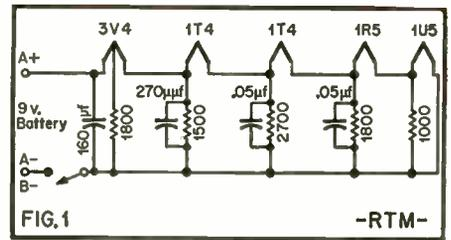

FIG.1
A similar condition results when a symmetrical signal is applied only to the horizontal input terminals of the oscilloscope. See Figures 1(C) and 1(D). In this case, the spot is deflected rapidly to the right and left of its position of rest at the center of the screen. The result is a horizontal straight-line trace, as shown in Figure 1(D). Here, the peak voltage, rms voltage, and peak-to-peak voltage are measured in the same manner just described for the vertical line trace.
In making the oscilloscope calibration, we will use line patterns similar to Fig. 1(B). The line will be adjusted to various lengths by varying the calibration voltage, and the voltage value will be read by means of an AC voltmeter. The scope sweep is not used, since the highest point of a line is easier to see than the peak of a waveform.
ply and the plate-screen currents returning to B- through the filaments. Consequently, it is desirable to add shunt resistors to bypass some of this current and to maintain the filament voltage at the rated value. See Fig. 1 for a diagram showing the resistors suggested in a typical battery filament circuit. The filament string uses 8.4 volts at 50 mils, and the resistors maintain the current and voltage at this value by bypassing the screen and plate currents passing through the filament.